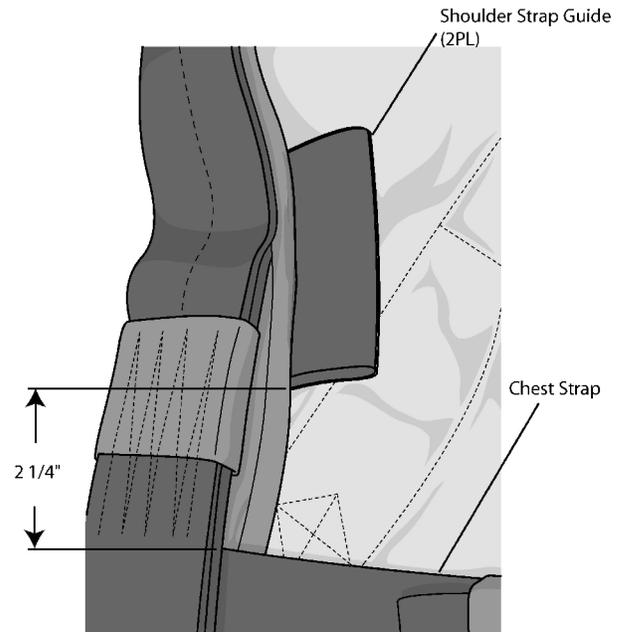

Figure 11. Attachment of Shoulder Strap Guides
(21) Sear cut 2 pieces of 3-in. webbing 3 1/2-in. long.
(22) Fold length wise, creating the shoulder strap guide.
(23) Measure 2 1/4-in. up from the chest strap and sew shoulder strap guide to binding tape of harness garment (Figure 11).